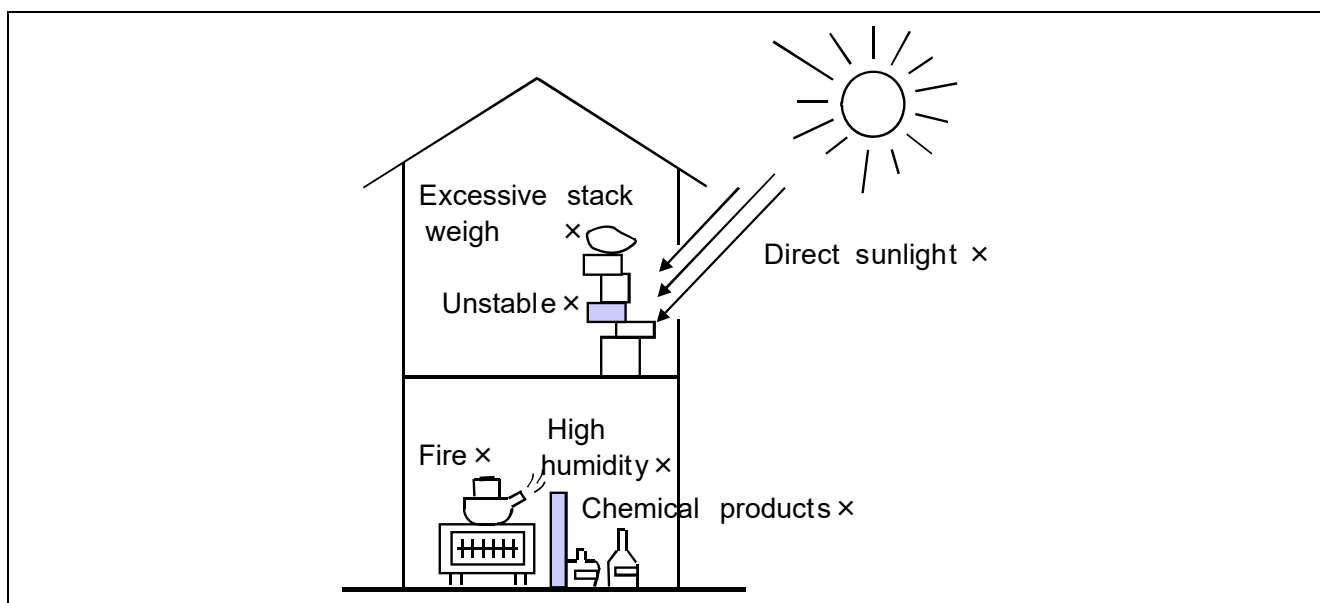

Figure 14 Bad Storage Locations
- (a) Care is required so that weight is not applied to semiconductor devices in storage. Especially, in the stacked state, excessive weight is applied to the semiconductor device. Avoid placing heavy objects on semiconductor devices. (see figure 14)